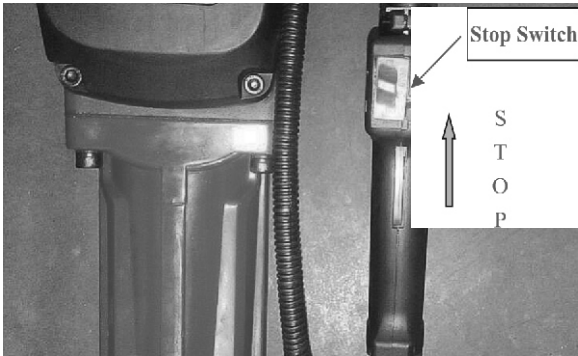

Fig. 5
2. Pull Stop Switch to the position of flameout. See the position of Stop Switch in Fig.5.